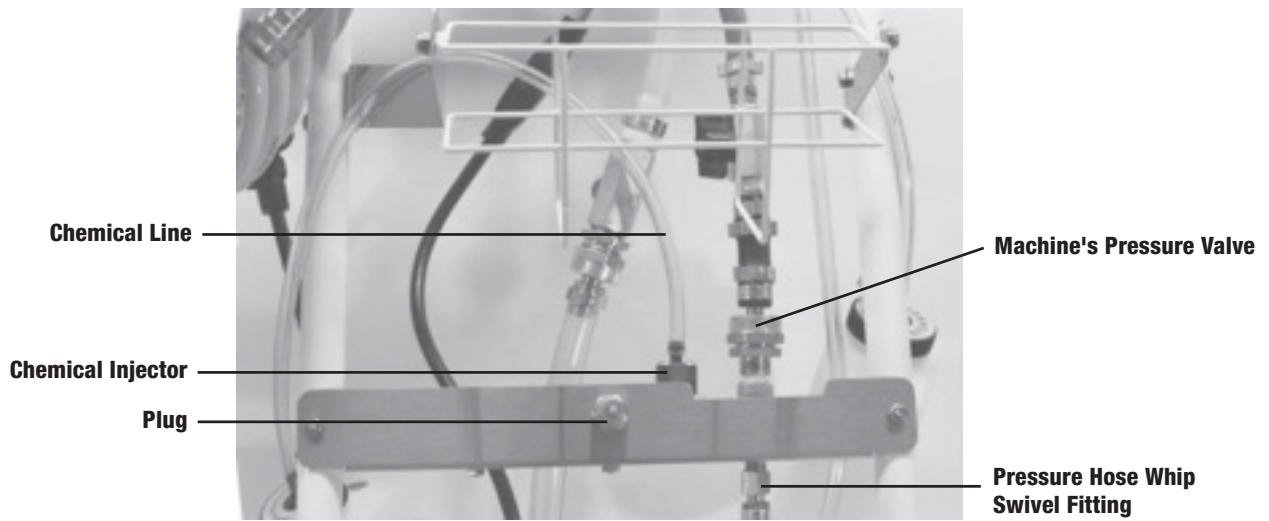
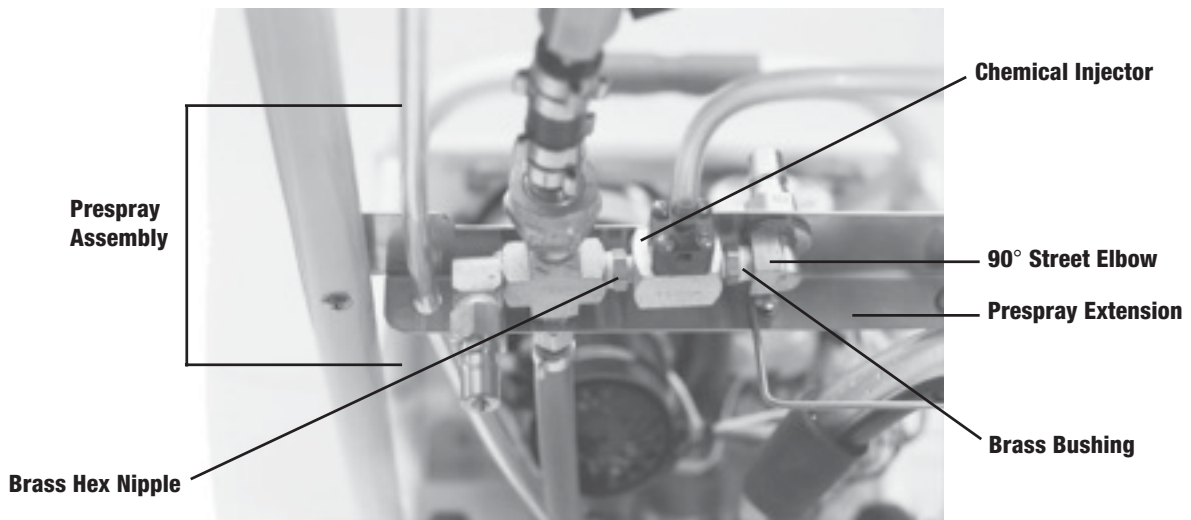

Figure 18
Figure 19
2. Unscrew pressure hose whip at its swivel fitting (fig. 18) and remove chemical line from chemical injector (fig. 18).
3. Unscrew machine's pressure valve (fig. 18).
4. Unscrew plug (fig. 18) and remove prespray assembly (fig. 19) from prespray extension.
5. Remove chemical injector from the prespray assembly at the brass bushing and brass hex-nipple locations (fig. 19).
7. Place prespray assembly in prespray extension and tighten the pressure hose whip swivel fitting (fig. 18).
9. Reattach the machine's pressure valve and chemical line (fig. 18).